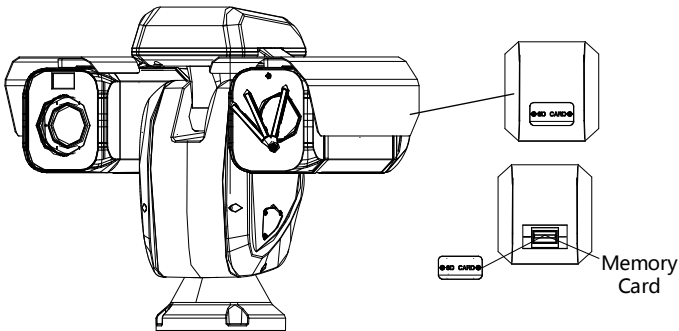

Figure 3-4 Memory Card Installation
2. Insert the memory card into the card slot until it clicks, as shown in Figure 3-4.